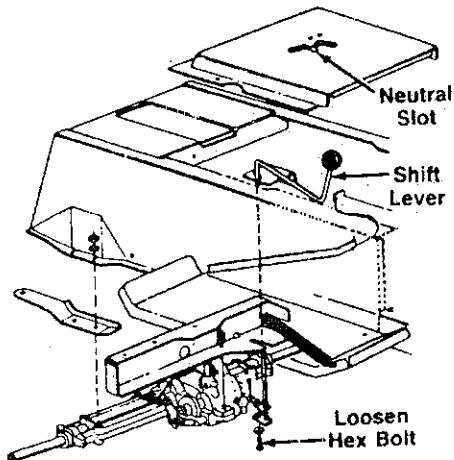

FIGURE 14
2. Loosen the bolt which secures the shift lever assembly to the shift lever link. See figure 14.
3. Place the shift lever in the neutral slot. See figure 14.